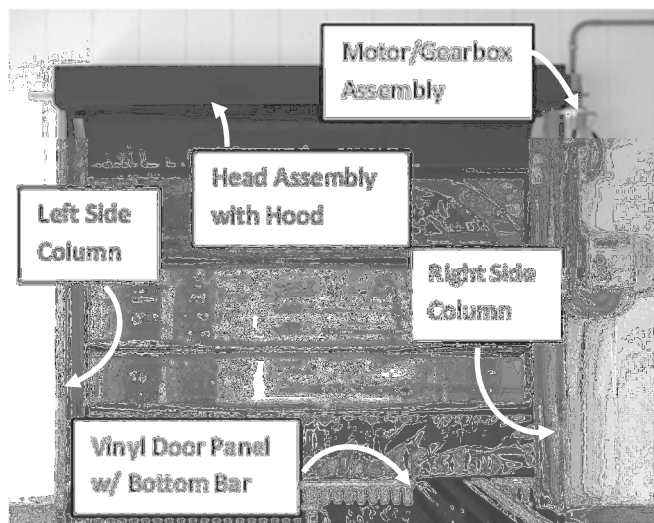

Fig. 17
*NOTE: Your **DOOR SERIAL NUMBER** information can be found halfway up the left side column. (See Figure 17)*